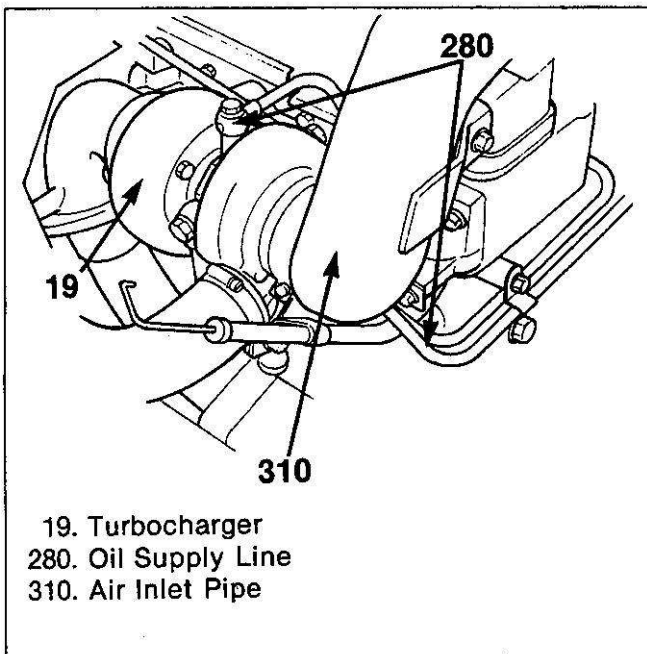

Figure 11. Turbocharger Oil Feed Line Attachment
4. Turbocharger air inlet pipe (310) (figure 11).
5. Oil feed line (280) (figure 11).
- Fitting (280) to 14 N·m (122 lb·in).
7. Air inlet pipe (310) to turbocharger (19) (figure 11).